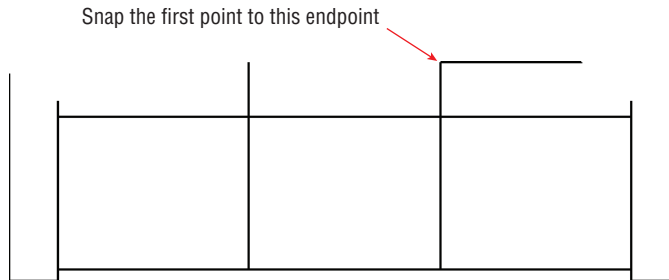

FIGURE 9.3 Drawing a straight-backed sofa
8. Click the Line tool on the Draw panel. Snap the first point of the line to the endpoint shown in Figure 9.3. Move the cursor to the right, and click an arbitrary second point. Press Esc to end the LINE command.